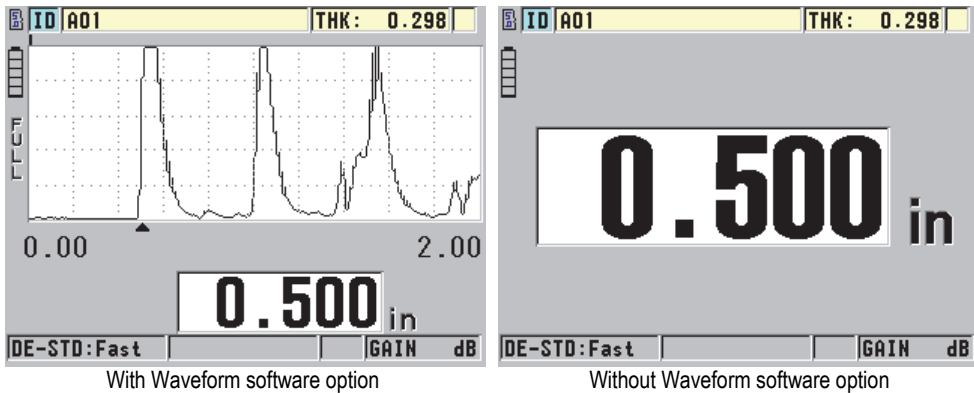

Figure 5-12 Reading the measured thickness
- Read the measured thickness value for the tested part (see Figure 5-12 on page 75).